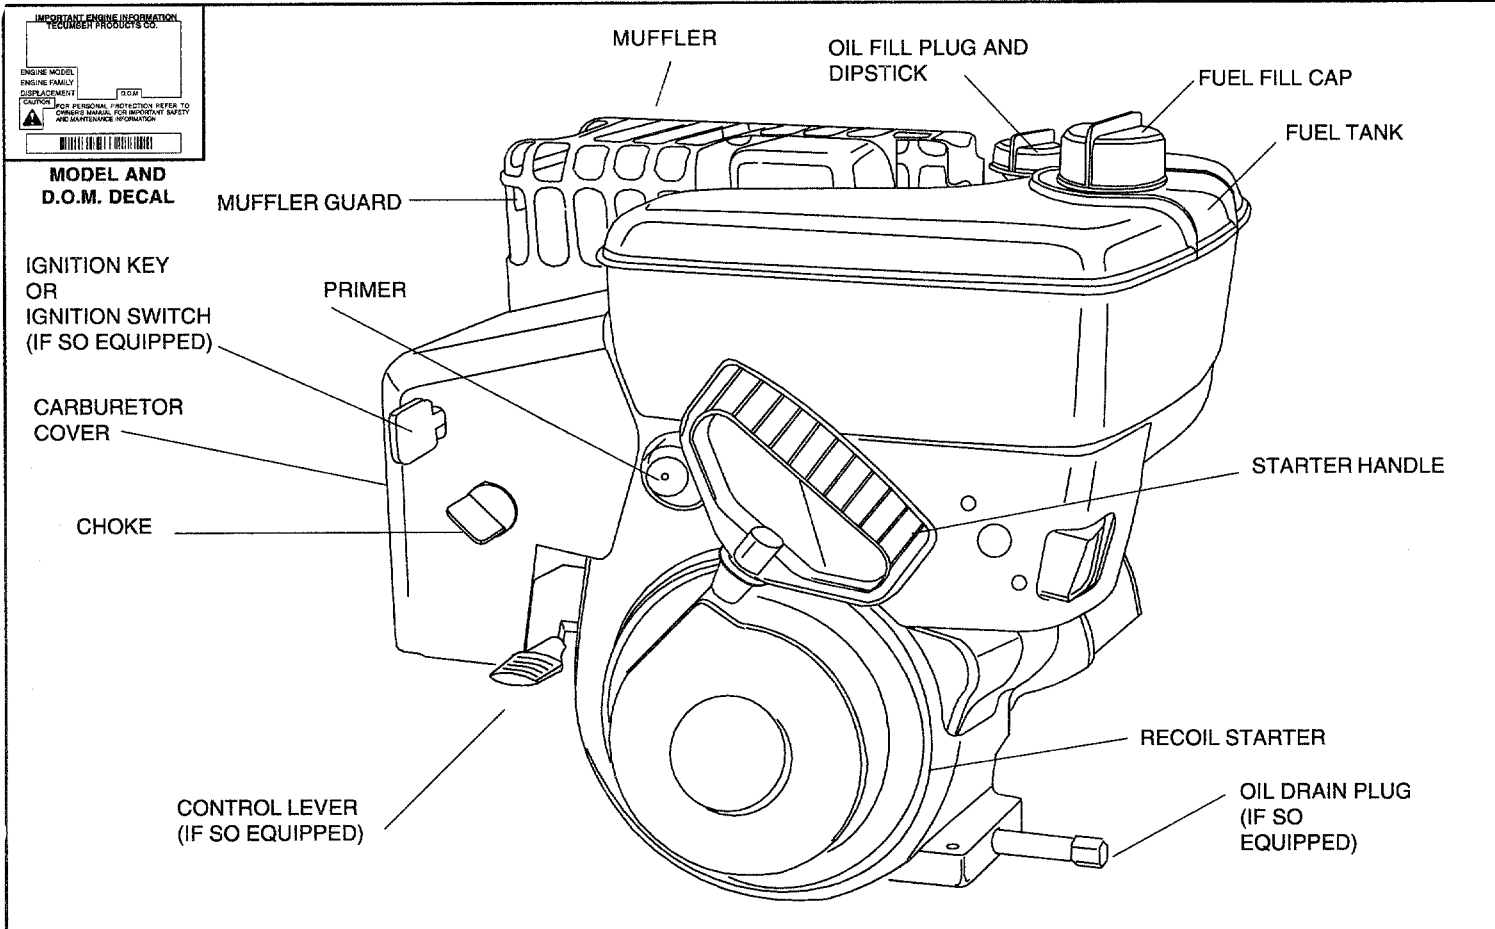

Figure 1
B. Clean area around oil fill plug (see Figure 1).
B. Be sure spark plug wire is attached to spark plug (see Figure 1).
- Ignition key (if so equipped see Figure 2) is inserted into ignition keyslot in carburetor cover (see Figure 1).
① RECOIL STARTER (see Figure 1):
- Grasp starter handle (see Figure 1) and pull rope out, slowly, until it pulls slightly harder. Let rope rewind slowly. Then pull rope with a rapid full arm stroke. Let rope return to starter slowly.